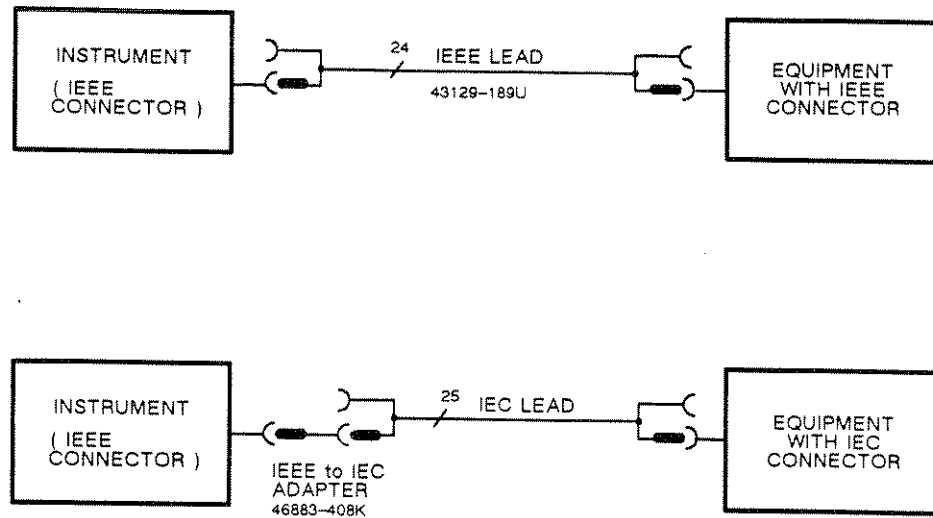

Fig. 2-2 GPIB interconnections
(1) Remove the rectangular cover plate from the right-hand side of the rear panel, withdraw the interconnecting lead and discard the cover plate but retain the fixing screws.
(2) Connect the GPIB interface assembly AD0 taking care that the ribbon cable connector SKP is correctly aligned with the connector PLP.
(3) Slide the GPIB assembly into the instrument, engaging top and bottom card guides, and switch the instrument on temporarily. Check that the front panel displays data correctly. If this is satisfactory switch off and continue with step (4); if, however, display data is corrupted, switch off and re-check the alignment of SKP and PLP.
(4) Secure the GPIB assembly into the instrument, engaging the top and bottom card guides, and fasten the assembly to the rear panel using the two screws removed in step (1).
(5) The interface is ready for GPIB operation after setting the appropriate talker/listener address - see Chap. 3 : Second function 2.
(6) Connection to other equipment which has a 24-way bus connector to IEEE Standard 488 can be made with the GPIB lead assembly 43129-189U, available as an optional accessory. Where conformity with the radio frequency interference limits specified by VDE (Verband Deutscher Electrotechniker) is required, an alternative double screened GPIB lead assembly 46883-962H is available. An IEEE-to-IEC adapter 46883-408K is also available for interfacing with systems using a 25-way bus connector to IEC Recommendation 625 - see Fig. 2-2.